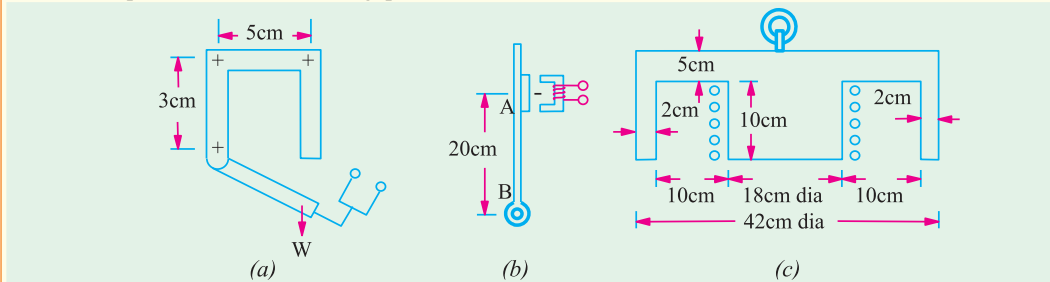

Fig. 8.9
10. In Fig. 8.9 (a) is shown the overload trip for a shunt motor starter. The force required to lift the armature is equivalent to a weight of  $W = 0.8165 \text{ kg}$  positioned as shown. The air-gaps in the magnetic circuit are equivalent to a single gap of 0.5 cm. The cross-sectional area of the circuit is  $1.5 \text{ cm}^2$  throughout and the magnetisation curve is as follows :
11. The armature of a d.c. motor starter is held in the 'ON' position by means of an electromagnet [Fig 8.9. (b)]. A spiral spring exerts a mean counter torque of 8 N-m on the armature in this position after making allowance for the weight of the starter arm. The length between the centre of the armature and the pivot on the starter arms is 20 cm and cross sectional area of each pole face of the electromagnet  $3.5 \text{ cm}^2$ .
12. A cylindrical lifting magnet of the form shown in Fig. 8.9 (c) has a winding of 200 turns which carries a current of 5 A. Calculate the maximum lifting force which could be exerted by the magnet on a flat iron sheet 5 cm thick. Why would this value not be realized in practice ? The relative permeability of the iron can be taken as 500.